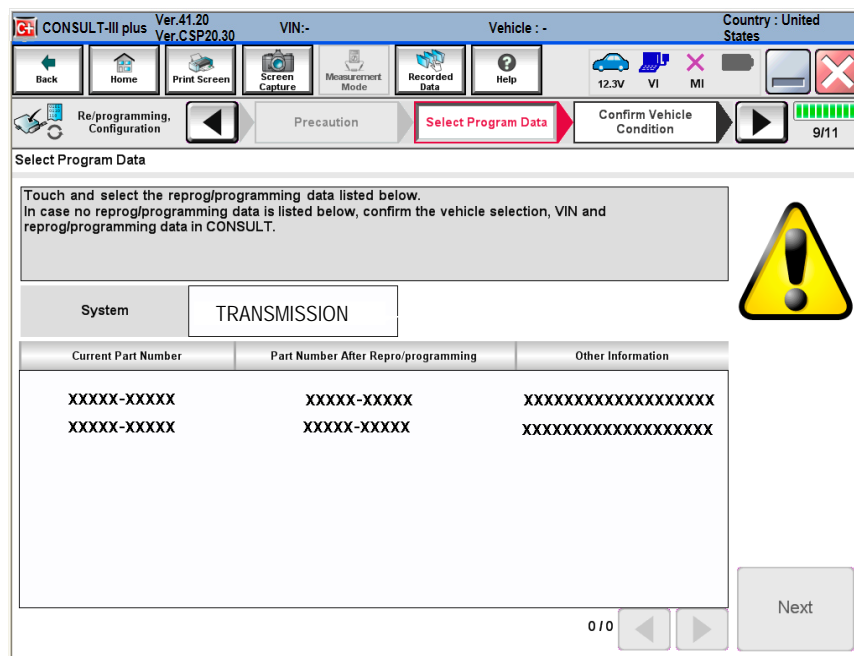

Figure 27
- If more than one P/N is available, the screen in Figure 27 will display. Select and use the reprogramming option that **does not** have the message “Caution! Use ONLY with NTBXX-XXX”.